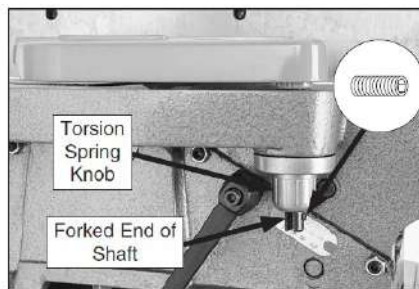

Fig 10A
Mount the cutter block guard (Fig. 10A)
2. Thread set screw through forked end of cutterhead guard shaft, as shown in Fig 10A. When properly installed, guard is positioned 3/8" above table for safety during operations. Installing fence tilt lever